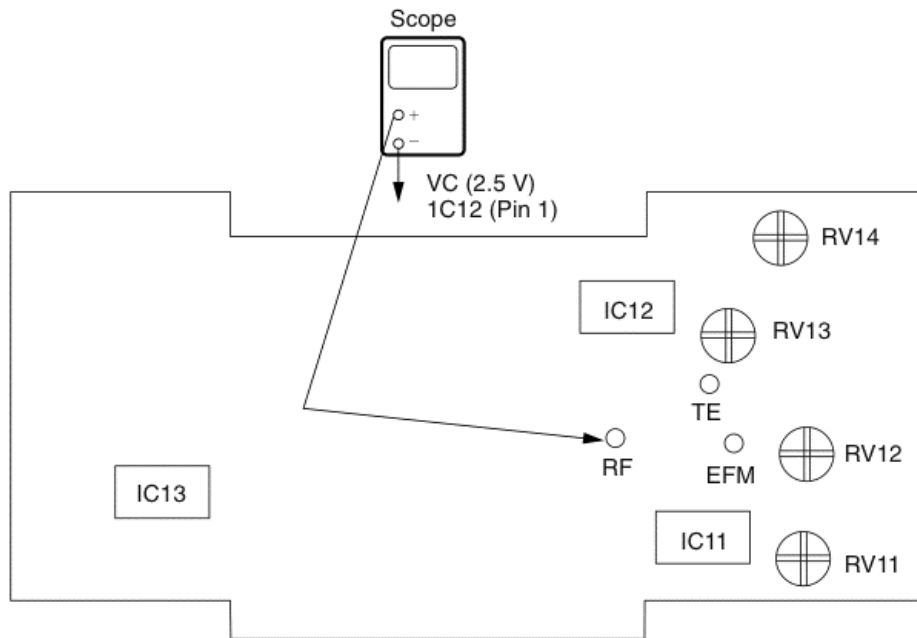

FIGURE 31-23 The focus offset adjustment for an auto CD changer.
1. Connect the oscilloscope to the servo board test point RF (Fig. 31-23).